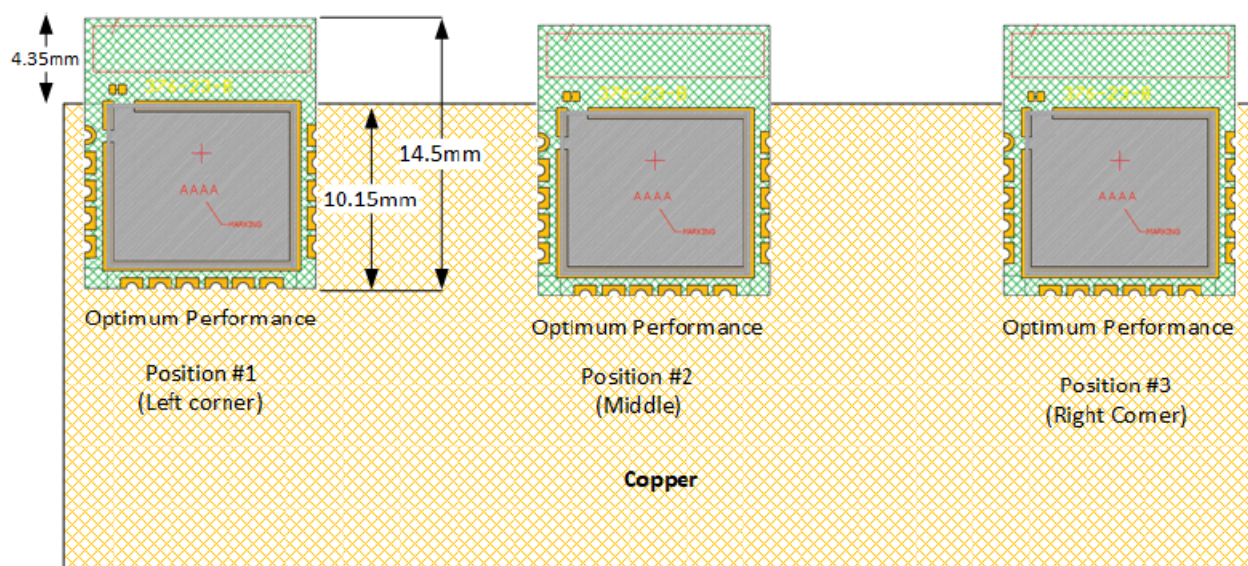

Figure 10: Installation Locations for Optimum Antenna Performance
- Table 10 summarizes the antenna efficiency at different installation locations on a host PCB as shown in Figure 10.